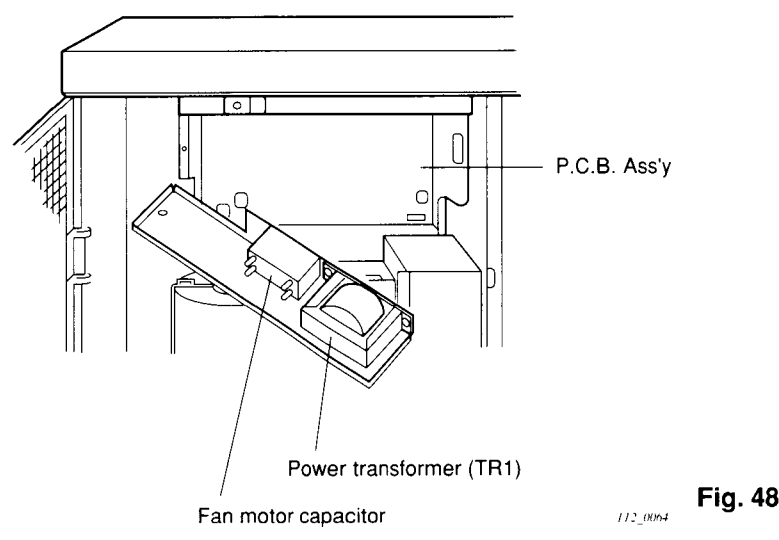

**Fig. 47**
- Then check for continuity of the fuse by using the multimeter. (**Fig.47**)